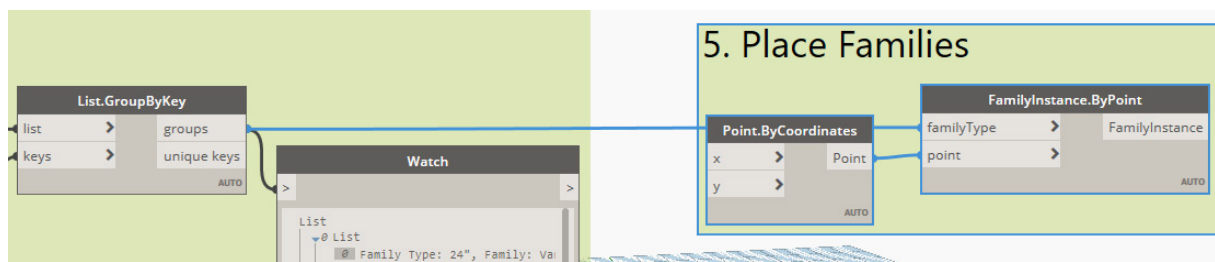

Figure 48
14. Wire the **groups** output (from the ***List.GroupByKey*** node) into the **familyType** input of ***FamilyInstance.ByPoint*** node (see Figure 48).